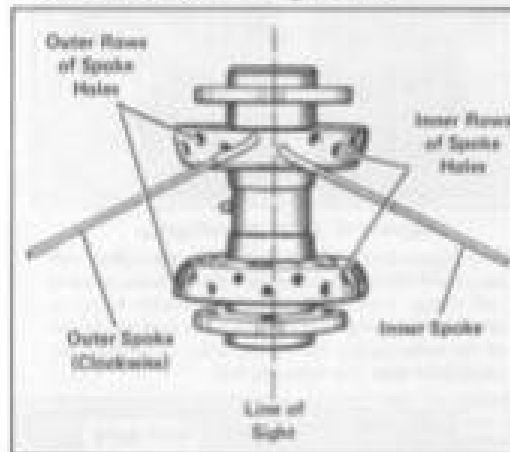
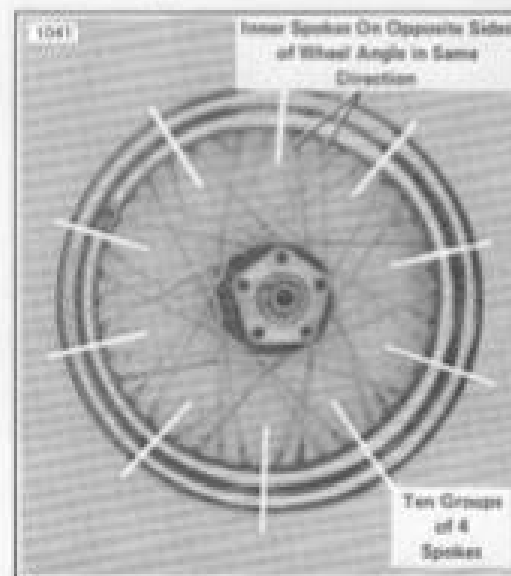

Figure 2-12. Early Style Hub
Figure 2-12B. Early Style Laced Wheel
Early Style Hub - See Figure 2-12. Pick any outside spoke hole and sight straight across the hub. The first spoke hole to the right of the centerline is an inner spoke hole. Also, with the wheel assembled, all inner spokes on opposite sides of the wheel angle in the same direction and all outer spokes on opposite sides of the wheel angle in the same direction. See Figure 2-12B.
4. See Figure 2-12 and 2-12A. Insert 10 spokes into the upper flange inner spoke holes. Swing the loose ends clockwise as far as they will go.
5. See Figure 2-12B and 2-12C. The rim is divided into ten groups of spoke holes, 4 holes to a group. In each group, only one hole will be angled toward each upper flange inner spoke. Place the rim over the hub, either side up, and insert the spokes into these holes. Secure each spoke with a nipple screwed on the end about 3 turns, just enough to hold it in place.
6. When all 20 inner spokes are installed, insert a spoke into an outside spoke hole on the same flange side. See Figure 2-12 and 2-12A.